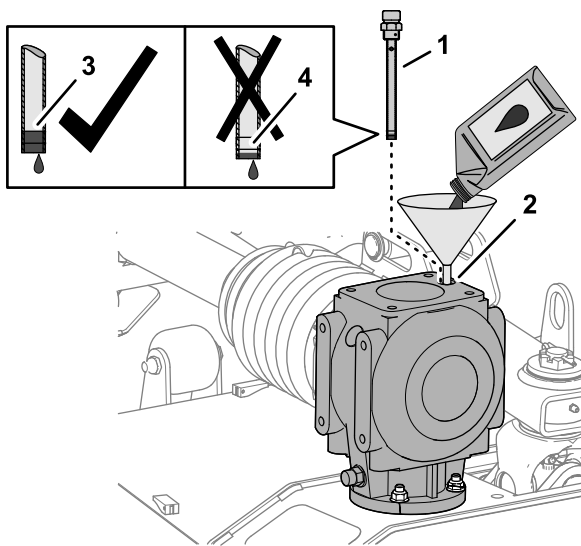

Figure 63
1. Add 1,064 mL (36 fl oz) of the specified gear lubricant to the gearbox through the dipstick port (Figure 63).
2. Thread the dipstick into the port, remove the dipstick, and check that the lubricant level (Figure 63).
4. Thread the dipstick into the fill port and tighten the dipstick (Figure 63).